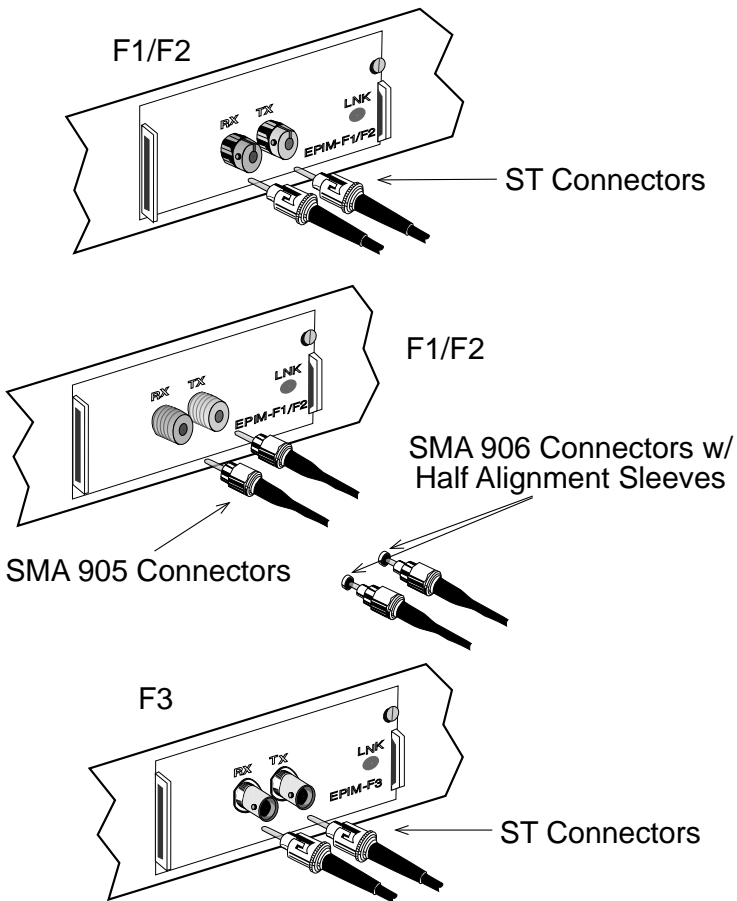

Figure 4-4. The EPIM-F1, EPIM-F2 and EPIM-F3
2. Attach the fiber labeled 1 to the applicable receive port, labeled **RX**, on the module. See Figure 4-4.